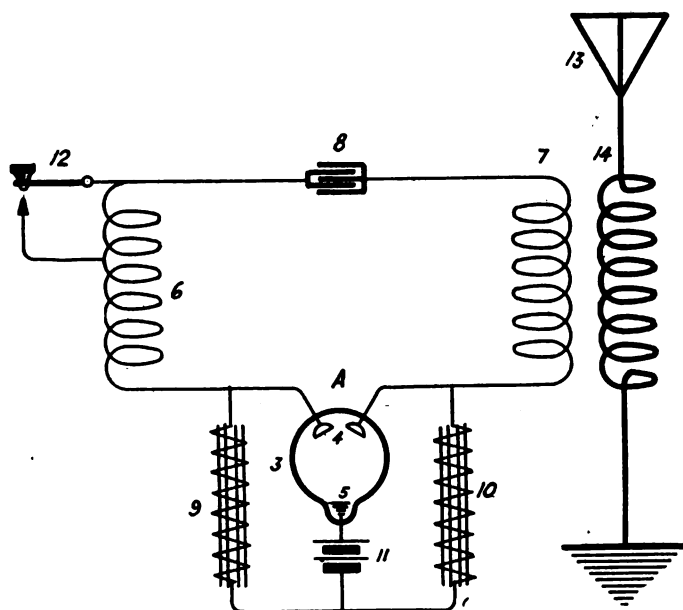

Figure 1—Circuit employing mercury vapor arc to generate radio frequency currents
FREDERICK VREELAND believes he has solved the problem of selective and secretive wireless signaling by use of the apparatus shown in figures 1 and 2. The fundamental circuits admittedly are simple, the only unexplained device being the recording instrument to take down the signals. As a novelty of this system it is to be noted that in figure 1 a
of the incoming signal, a continuous beat note will result in a telephone provided the transmitter is in constant operation. If then the transmitting operator presses the key 12 in figure 1, the slight detuning of the transmitting circuit occasioned thereby will cause a sufficient change in frequency to either increase or decrease the pitch of the beat current at the receiver.